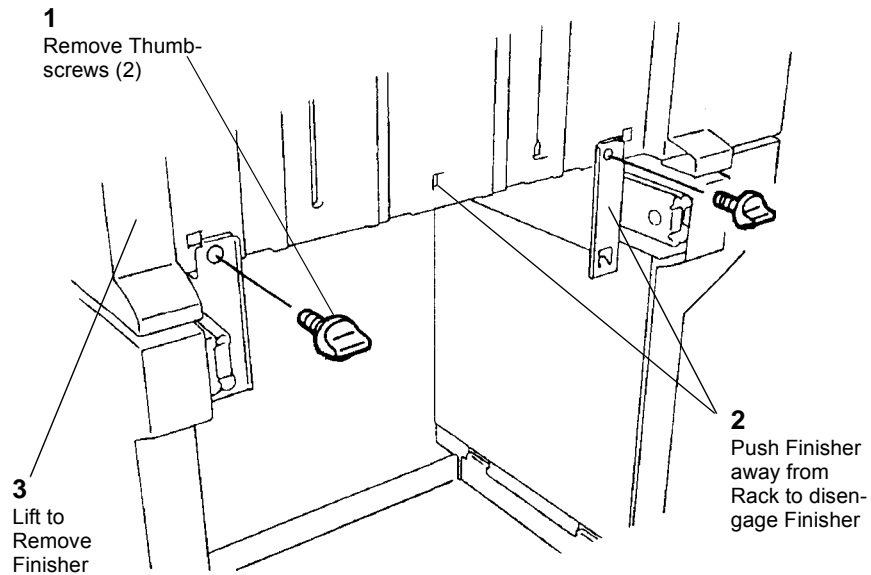

Figure 1 Removing Thumbscrews
3. Remove the Thumbscrews (2) (Figure 1).